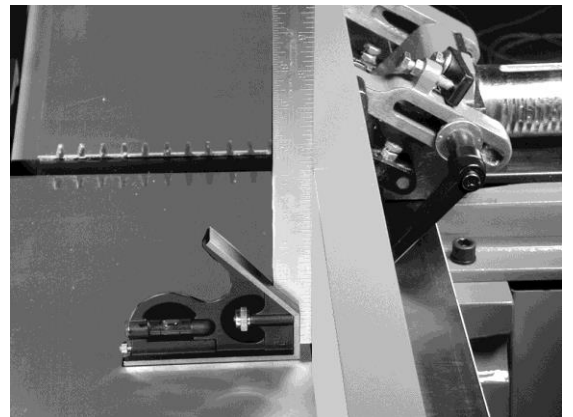

Figure 6
1. Lay a square on the infeed table as shown in Figure 6.